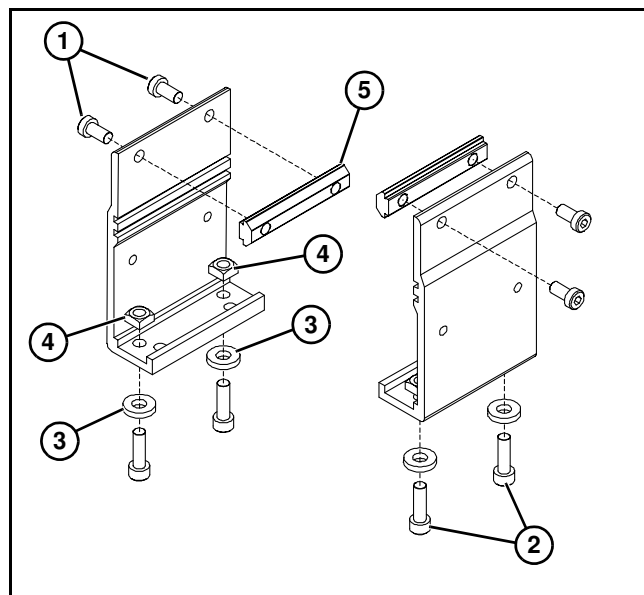

**Figure 9**
- With a 5 mm hex-key wrench, rotate pinion gear (**Figure 9, item 1**) to tension the conveyor belt. Tighten fastening screws (**Figure 9, item 2**) on both sides of conveyor to 80 in-lb (9 Nm). For proper tensioning, refer to “Conveyor Belt Tensioning” on page 20”.